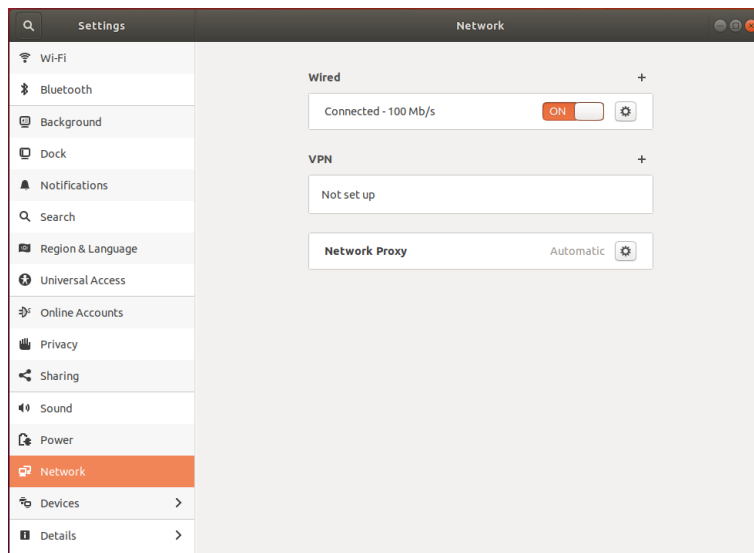

Fig. 5.11: Linux "Wired Settings"
1. Click on top-right network icon, then open the path (**Fig. 5.11**):